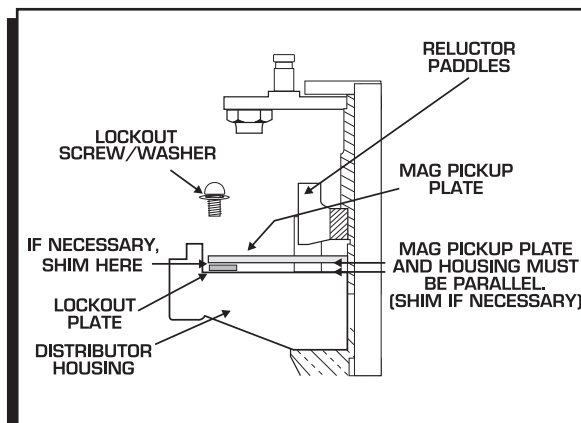

Figure 12 Checking Installation of the Lockout Plate.
6. It is important to make sure the pickup plate is parallel with the housing of the distributor (Figure 12). If it is cocked or slanted, the paddles of the retractor may contact the pickup. Check the clearance by rotating the distributor shaft. If necessary, use the supplied shims under the Lockout hold-down to correctly position the pickup plate.